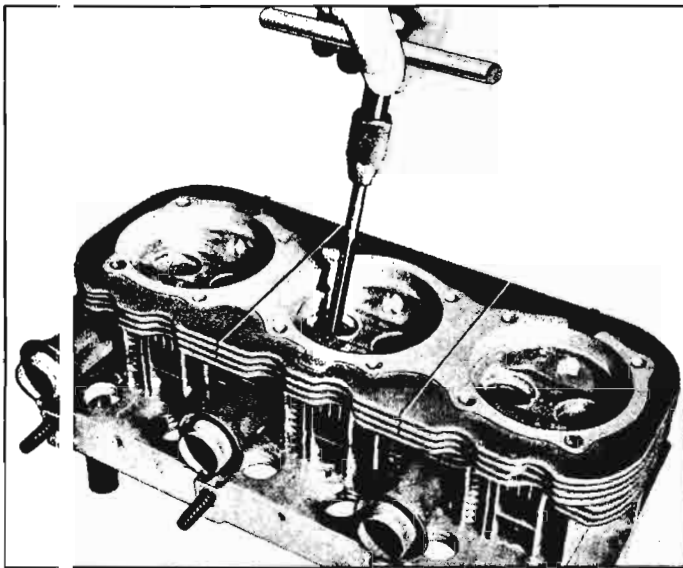

Fig. 6A-56—Reaming Valve Guide Bores
NOTE: Valves with oversize stems are available in the following sizes, .003" and .010". Tool J-5830-01 may be used to ream the bores or new valves (fig. 6A-56).
5. Check valve spring tension with Tool J-8056 (fig. 6A-57).